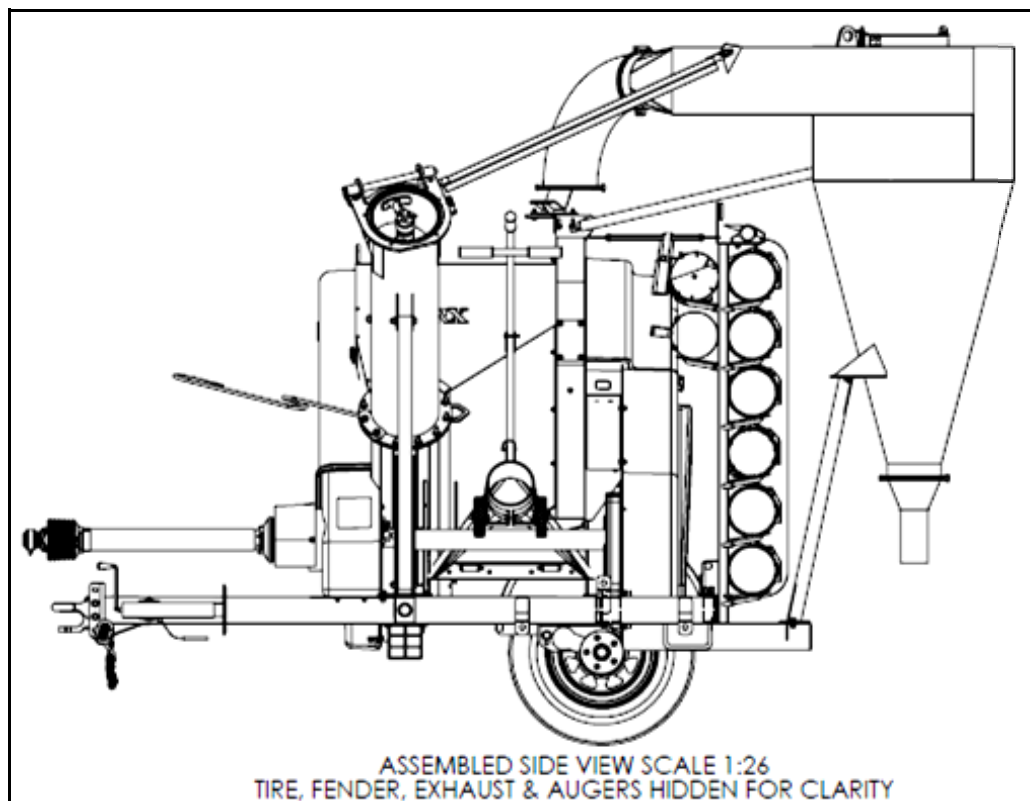

Figure 4.9 Optional Dust Collector on GrainVac
- a. Optional Dust Collector (see Figure 4.9): Dust and air enter the cyclone and while clean air is expelled from the top, dust is expelled from the bottom. A pail must be placed beneath the dust collector and emptied once it becomes full. This option provides the operator with a virtually dust-free environment outside the bin while loading.